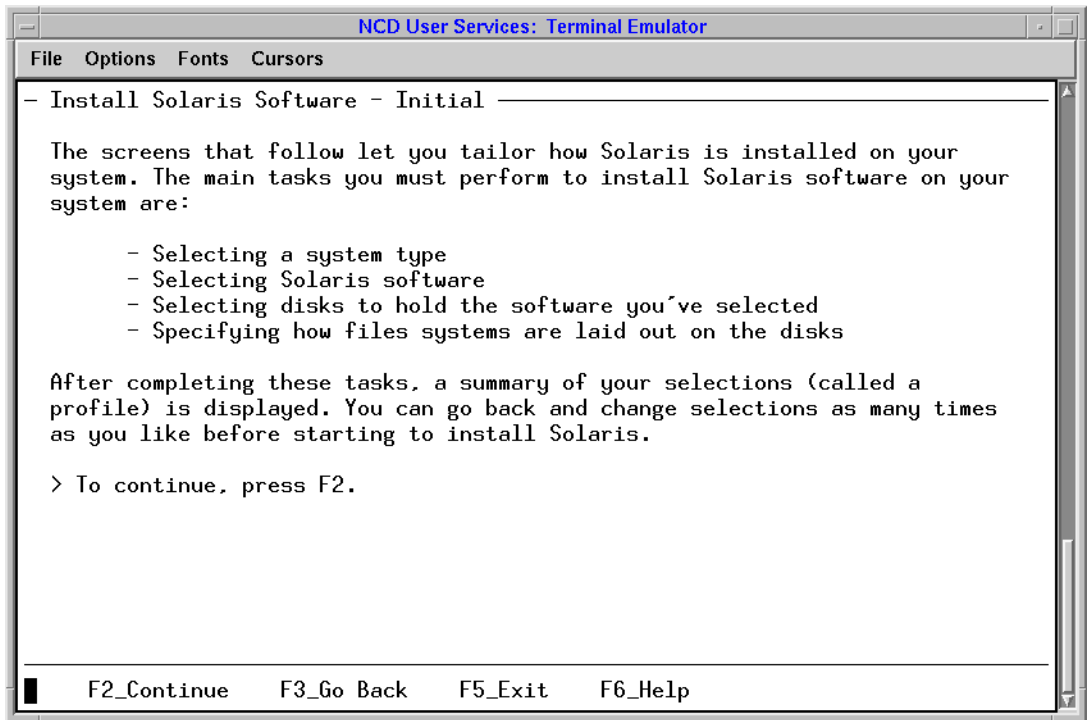

Figure 2-7: Install Solaris Software—Initial
18. After confirming the information by pressing <F2>, the Install Solaris Software—Initial window appears. (see Figure 2-7)